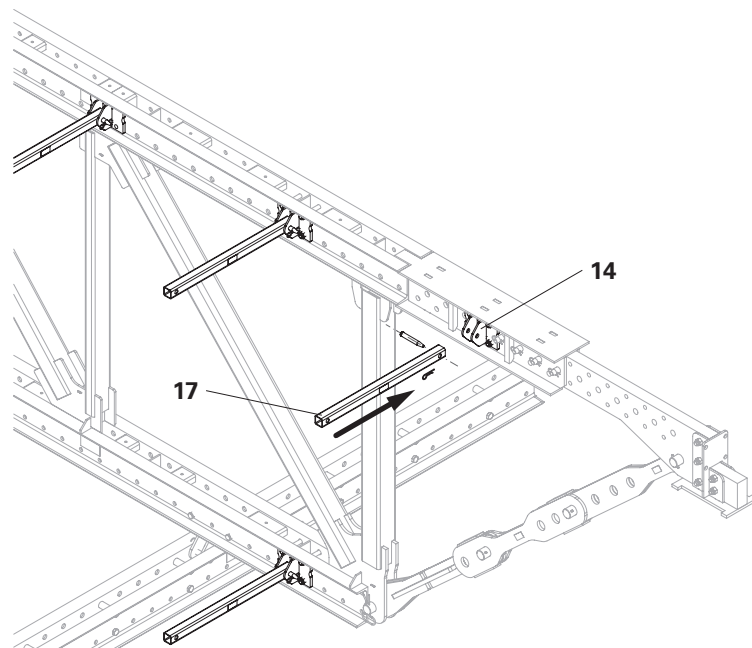

Fig. B3.05
- If a single truss or truss package is coupled to this single truss, the coupling posts (17) are mounted on the truss package. This facilitates on-site assembly of the packages. (Fig. B3.05)